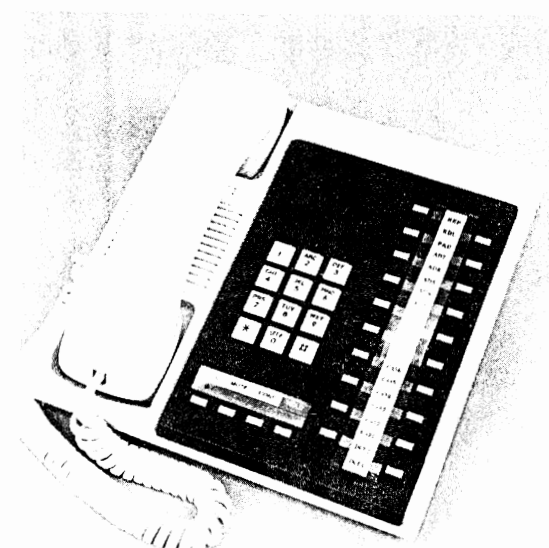

FIGURE 20
08.05 The 20-key EKT (Figure 20)